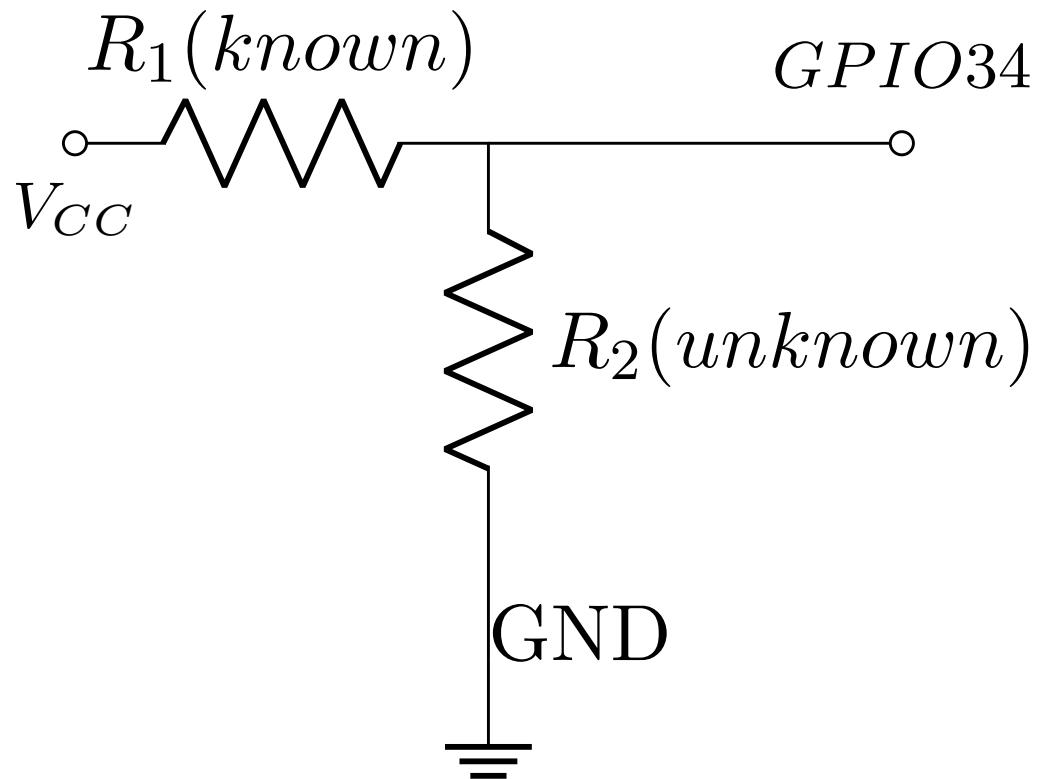

Figure 1.2.3.1: Voltage Divider
in series such that  $R_1$  is connected to  $V_{cc}$  and  $R_2$  is connected to GND. Refer to Fig. 1.2.3.1
1.2.4. The Ohm meter in this manual works on the principle of the voltage divider shown in Fig. 1.2.3.1.
- 1.4.3. Let  $R_1$  be the known resistor of 1k ohm and  $R_2$  be the unknown resistor. Connect  $R_1$  and  $R_2$  in series such that  $R_1$  is connected to  $V_{cc}$  and  $R_2$  is connected to GND. Refer to Fig. 1.2.3.1.